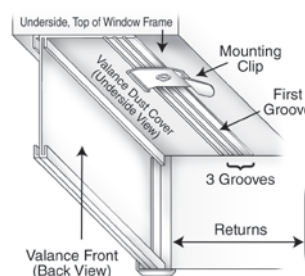

Figure 2
1. Place valance to the underside, top of the window frame or ceiling. Position one mounting clip over the first groove on underside of valance's dust cover as shown (Fig. 2).
2. Secure mounting clip and valance to window frame or ceiling with one mounting screw per clip (Fig. 2).